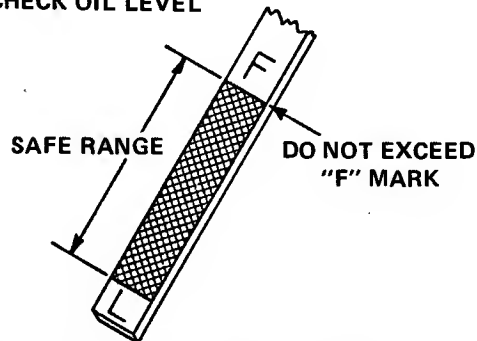
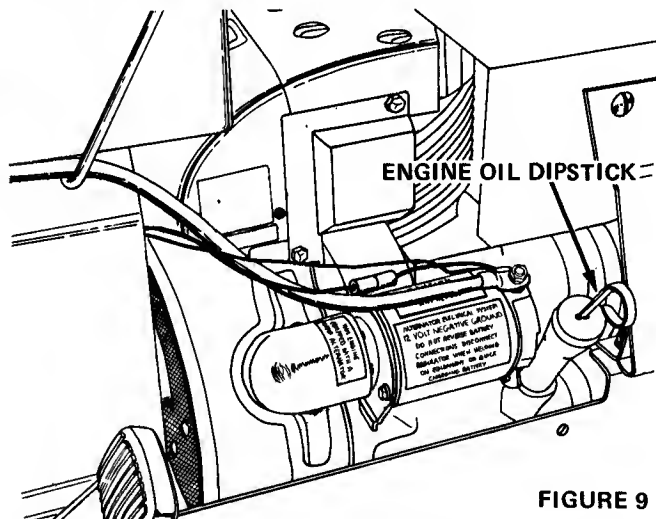

FIGURE 8
FIGURE 9
Check the engine crankcase oil level daily or every 5 hours operation. It is essential that the oil level be maintained in the "safe" operating range as shown in Figure 8 at all times or serious engine damage could result.
To check the oil, stop engine and wipe all dirt and dust from around the dip stick, Figure 9. Pull dip stick out, wipe off the oil, re-insert dip stick and push it down tight. Pull the dip stick out and observe the oil level. Add sufficient oil of the proper viscosity to bring the oil up to the "fill" (F) mark, see Figure 8. Be sure tractor is level to correctly read dip stick.
6. Wipe dirt from around the oil level and filler plugs. See Figure 8. Remove plug.